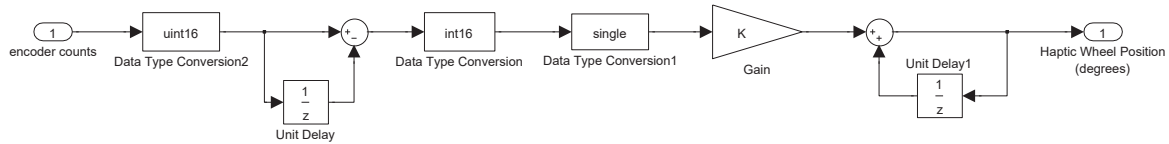

Figure 4: Block diagram for converting encoder counts to haptic wheel degrees
3. Figure 4 is a Simulink model of a subsystem that converts haptic motor position, in encoder counts, to haptic wheel position, in degrees. What is the purpose of each block in this diagram? As shown in Figure 8 of the handout “Simulink Models for Autocode Generation”, this subsystem will be used in conjunction with the eTPU/FQD device-driver block to produce wheel position in degrees.
HAND IN: A printout of Figure 4 with the functionality of each block correctly identified.
6. In the 'VirtualWallTask' subsystem, add a subsystem to represent the conversion between encoder ticks and haptic degrees. Into this subsystem, add blocks to build a system as shown in Figure 4. Watch carefully the remarks to Port Data Types and sample times for certain blocks given in Figure 4.